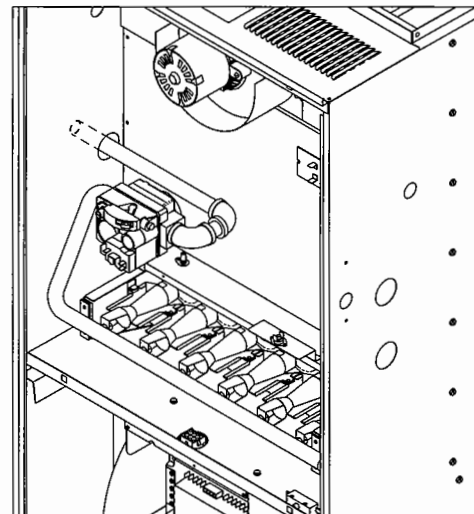

Fig. 5A — Gas Inlet Through Furnace Left Side
- Straight pipe to reach exterior of furnace. See Fig. 5A.